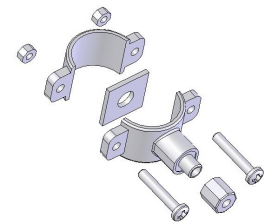

Fig. 2
8. Push the 3/8" white tubing onto the 3/8" fitting (larger barb) located on the faucet base. See Fig. 2.
2. Obtain the drain saddle assembly, two 1 1/2" bolts, two 3/8" hex nuts, and the small adhesive foam pad from the small parts bag (Fig. 2).